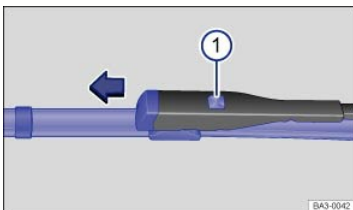

Fig. 165 Changing the windshield wiper blades.
- Press and hold the release button ⇒ Fig. 165 ⓘ.